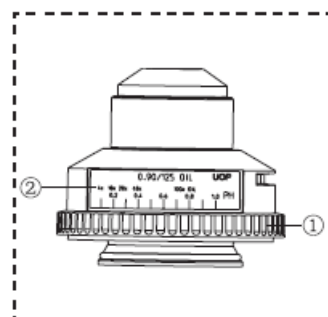

Fig. 14
① Stop down the condenser aperture iris diaphragm to correspond with a 10x objective.
② Engage a 10x objective into the light path and bring the specimen into focus.
③ Rotate the condenser centering screws on the condenser holder to adjust so that the specimen image is flat, evenly bright, and full in the field of view of the 10x eyepiece.
④ Now the condenser is centered.
b) Using the Aperture Iris Diaphragm(Fig.14&15)
⊙ To check the position of the perimeter of the aperture iris diaphragm, remove the eyepieces and look into the eyepiece sleeves to view the aperture iris diaphragm image and the objective's exit pupil. Slide the field iris diaphragm ring(① in Fig.14) to the right to open the diaphragm, and slide the aperture iris diaphragm ring to the left to shut the diaphragm.
⊙ There is color coded mark(② in Fig.14) on the condenser. The magnification of the objectives, the PH objective, the N.A. of the condenser are clearly coded with different color in the mark. For different objective observation, the white line on the iris stop at the corresponding position can bring you best observation.